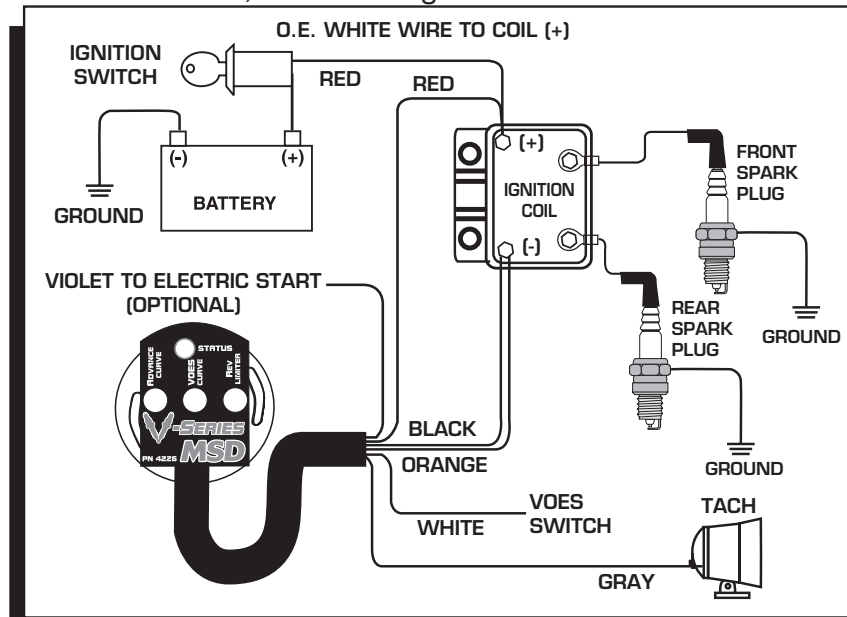
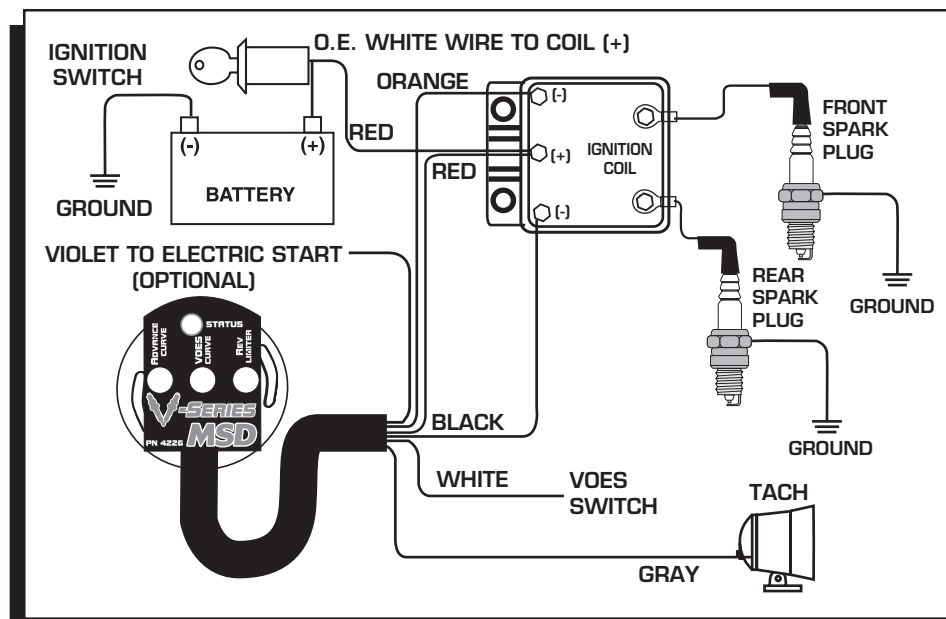

Figure 2 Dual Fire Ignition Hookup.
Figure 3 Single Fire Ignition Hookup.
5. Connect the Red wire to the coil terminal on the previously identified switched 12 volt wire. On a dual fire coil, the Orange and Black wires will connect together to the negative side of the coil (Figure 2). When using a single fire coil, the Orange wire will be used for the front cylinder negative terminal and the Black for the rear cylinder negative terminal (Figure 3).